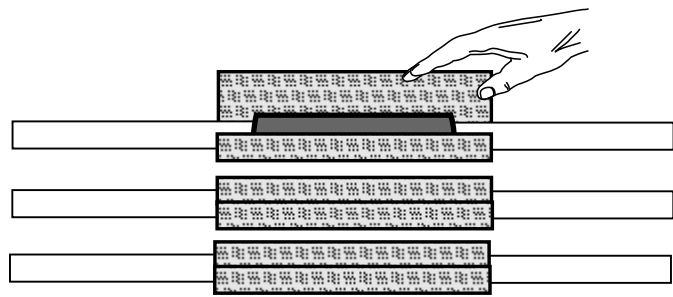

Fig 4
6. Take the small pieces of Mica Fire Barrier Tape and after removing the backing paper apply a piece around each Connector Insulation Tube longways so that it overlaps upon itself as shown in Fig 4.